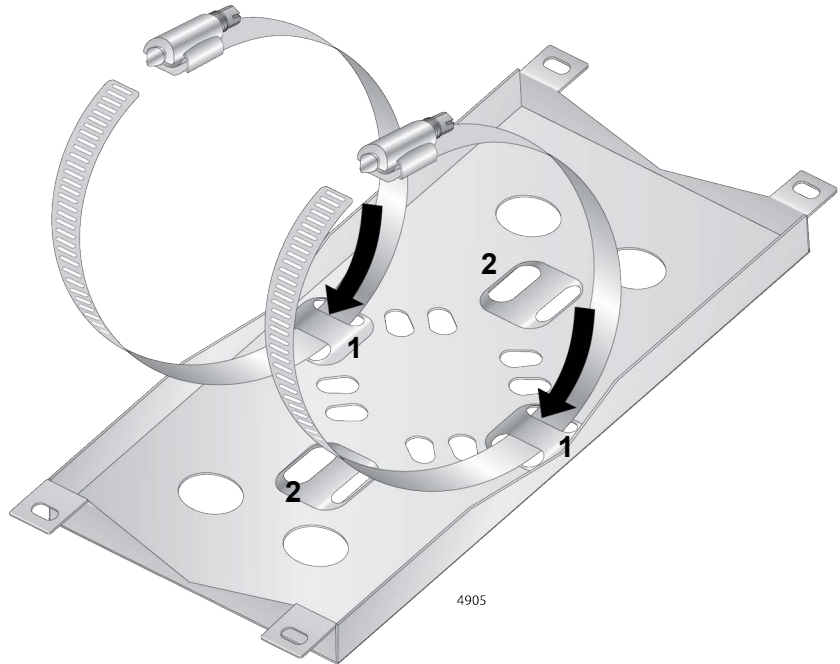

Figure 34. Threading the Pole Straps
3. Thread one pole strap through the holes marked 1 to attach to the mounting base. Repeat to thread the other pole strap. See Figure 34.
Figure 34 shows how to install the access point to a vertical pole. To install the access point on a horizontal pole, use the holes marked 2 to attach the pole straps to the mounting base.